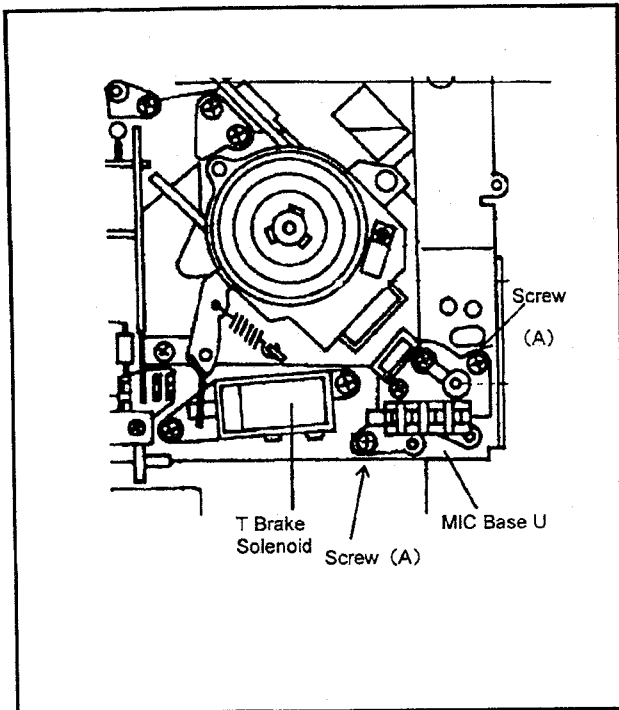

Fig. M15
3. Unscrew the 2 screws (A) and remove the MIC Base Unit as shown in Figure M15.